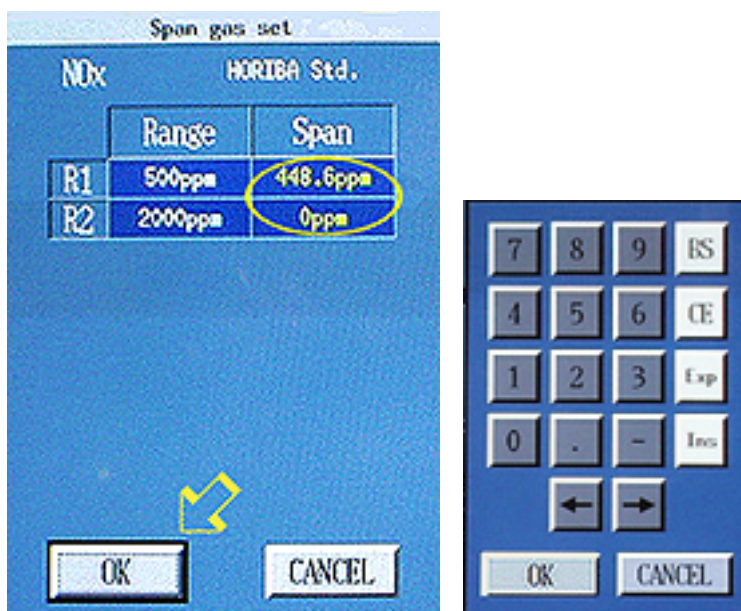

Figure 22
- 129 If it does not, return to the “Set Span” screen and click in the yellow user changeable field. See the circle in Figure 22. Use the on-screen keypad to enter “the correct value.” See Step 107. On the keypad, click on “OK.” On the Span gas set panel, click on "OK." See the arrow in Figure 22.